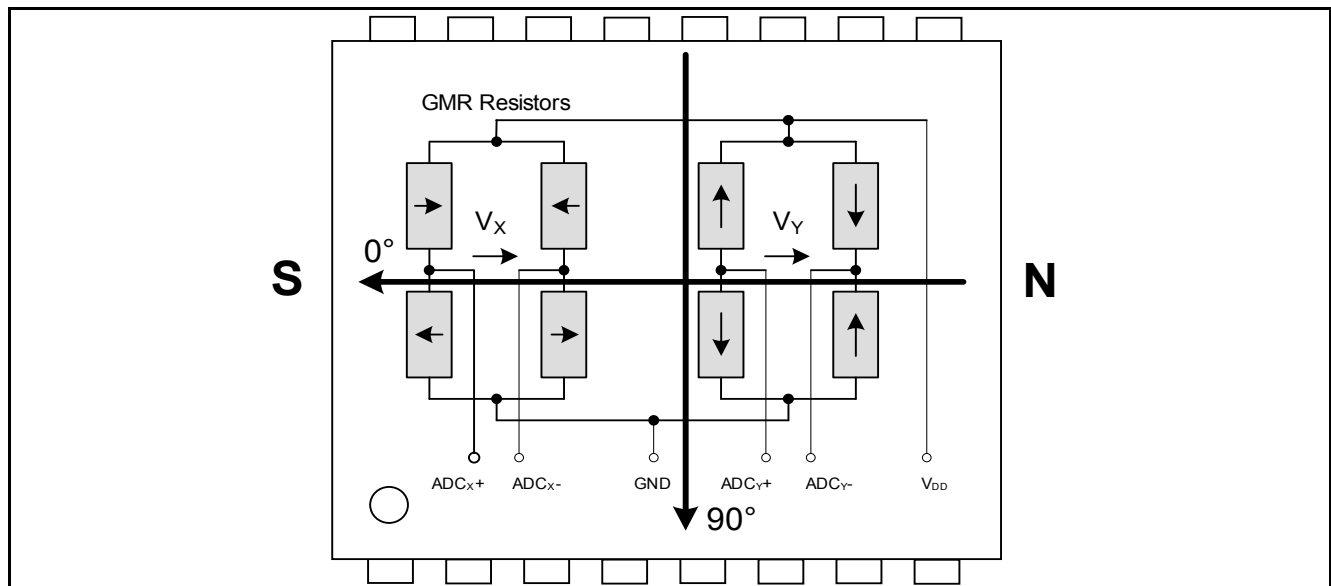

Figure 2 Sensitive bridges of the GMR sensor (one die, not to scale)
**Attention:** Due to the rotational placement inaccuracy of the sensor IC in the package, the sensors  $0^\circ$  position may deviate by up to  $3^\circ$  from the package edge direction indicated in Figure 2.
In Figure 2, the arrows in the resistors represent the magnetic direction which is fixed in the Reference Layer. On top of the Reference Layer, and separated by a non magnetic layer, there is a Free Layer. When applying an external magnetic field the Free Layer moves in the same direction as the external magnetic field, while the Reference Layer remains fix. The resistance of the GMR elements depends on the magnetic direction difference between the Reference Layer and the Free Layer.